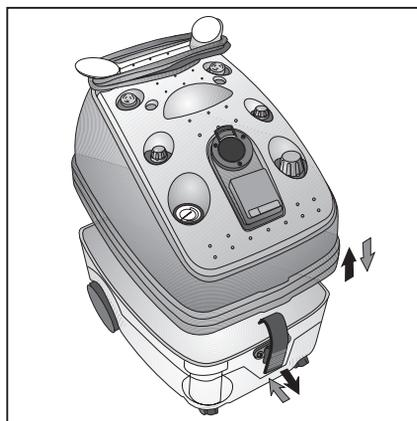

Fig. 6
- Reposition the top part of the machine onto the recovery tank in the direction shown (Fig. 6).
- Fasten the catches (G) and ensure that the top and bottom parts fit properly.